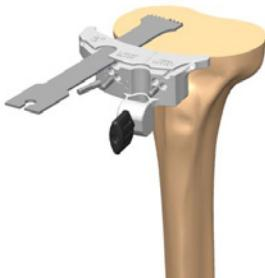

Figure 109
2. Remove the Tibia Stylus and assembly leaving the cutting block in place. Resect the proximal tibia (**Figure 109**).